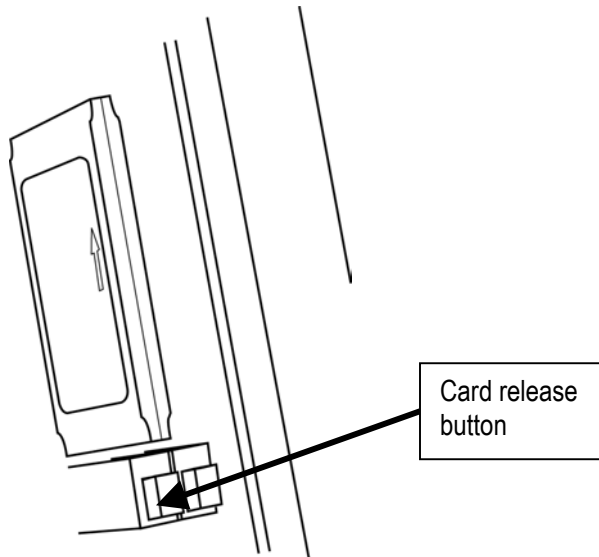

Figure 3.6 PCMCIA Card in place
2. Push in the button under the card to release. (see figure 3.6)